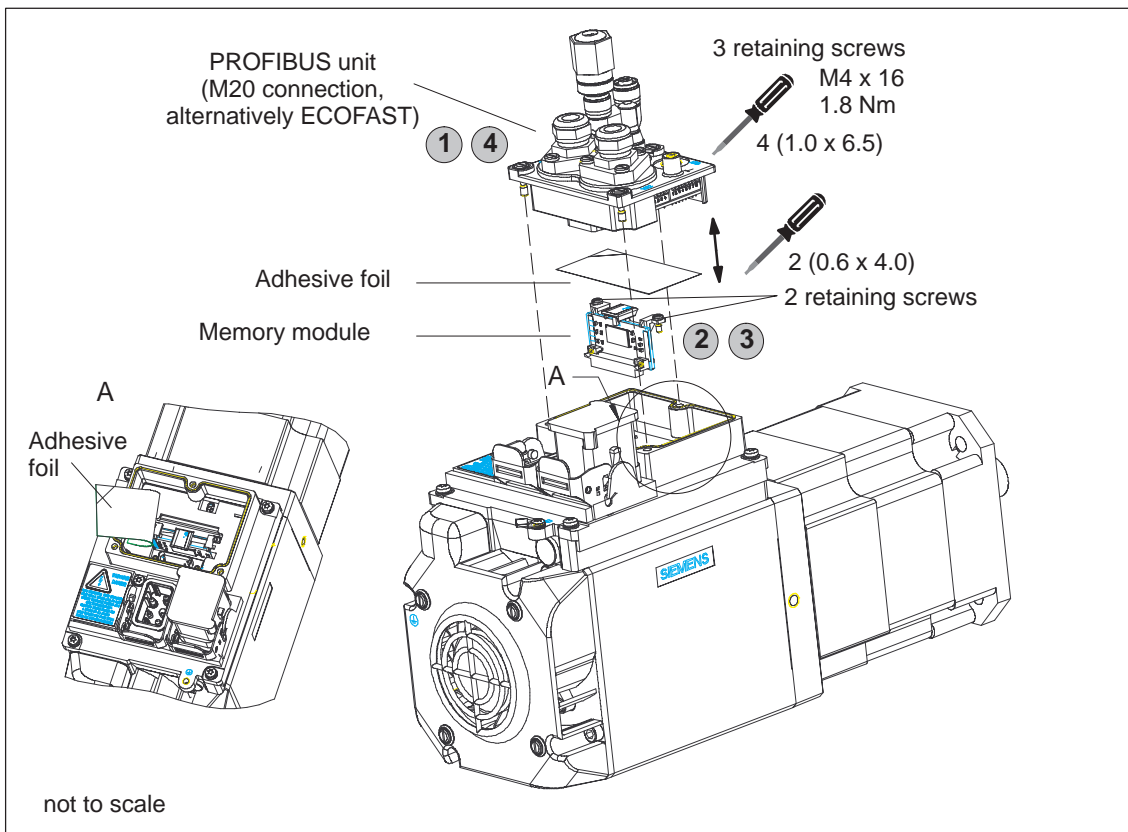

Fig. 8-19 Replacing the memory board for POSMO SI
- ⇒ Release the three retaining screws and withdrawn the PROFIBUS unit (refer to Figs. 8-19 and 8-20)
- POSMO SI —> refer to Fig. 8-19